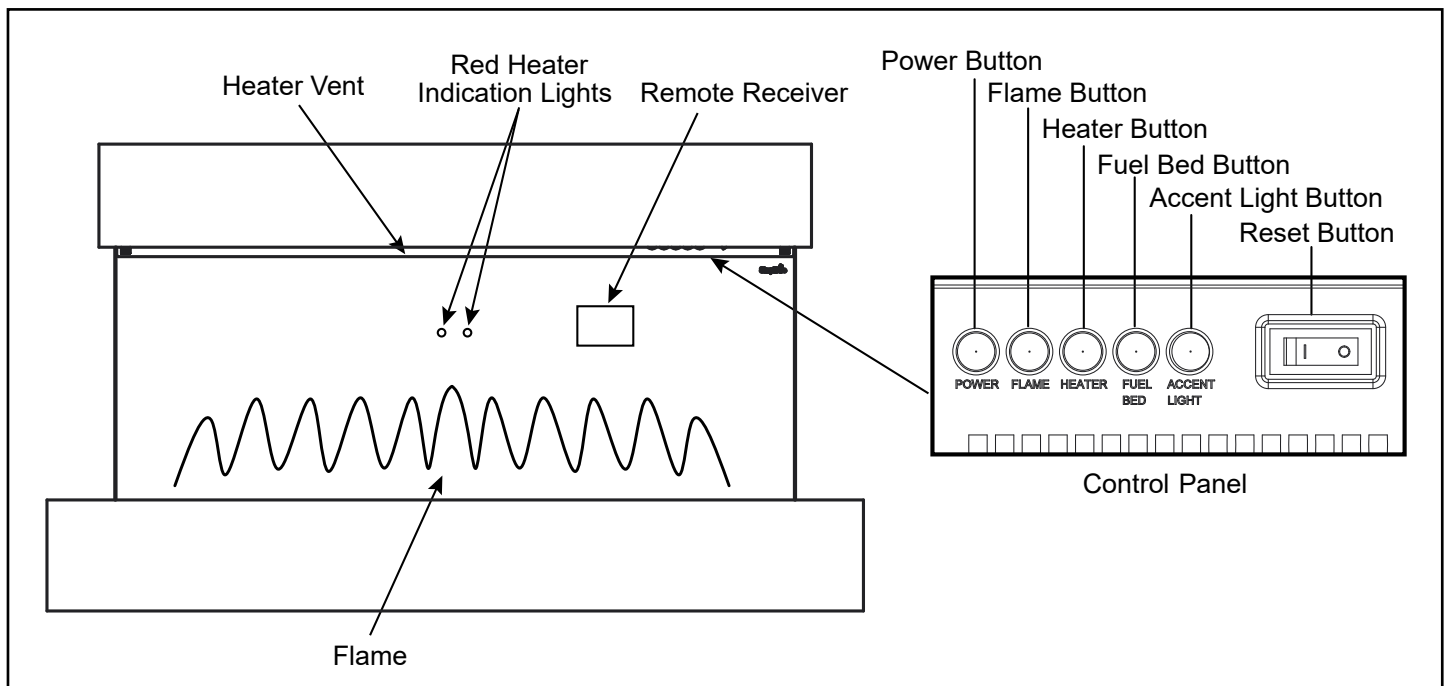

Figure 5.1 Manual Operating Switches
The appliance can be operated by both remote control and touch control buttons. Once the appliance has been properly connected to a grounded electrical outlet, turn on the power button located on the upper right side of the appliance. A beep should be heard when the power is first applied. See Figure 5.1.
- The remote control must be within the 16 ft. (4.9m) range and also be pointed directly at the face of the appliance. For best results, point the remote control toward the remote receiver location. See Figure 5.1.